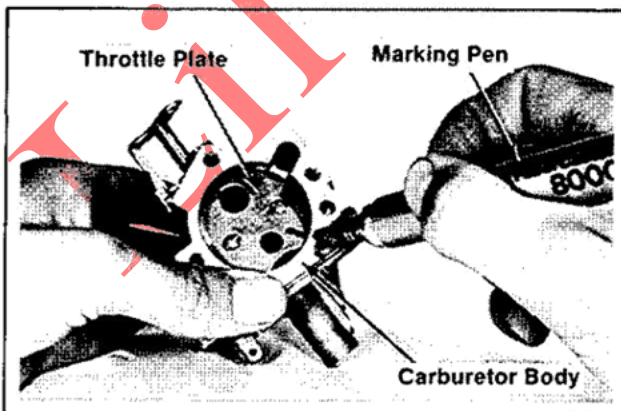

Figure 6-11. Marking Throttle Plate And Carburetor Body.
1. Because the edges of throttle plate are beveled, mark the throttle plate and carburetor body with a marking pen to ensure correct reassembly (refer to Figure 6-11). Also take note of the throttle plate position in bore, and the position of the throttle lever.